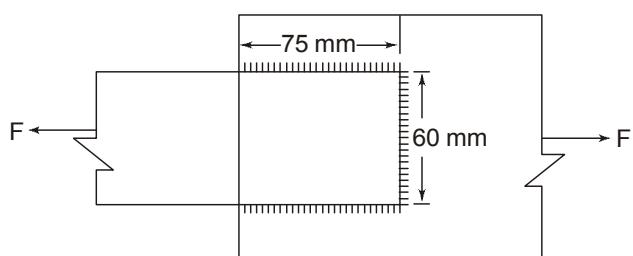

Fig. 4
- (b) Find the safe load that can be transmitted by fillet-welded joint shown in Fig. 4. The size of the weld is 6 mm. ( $P_q = 108 \text{ MPa}$ ). (10)